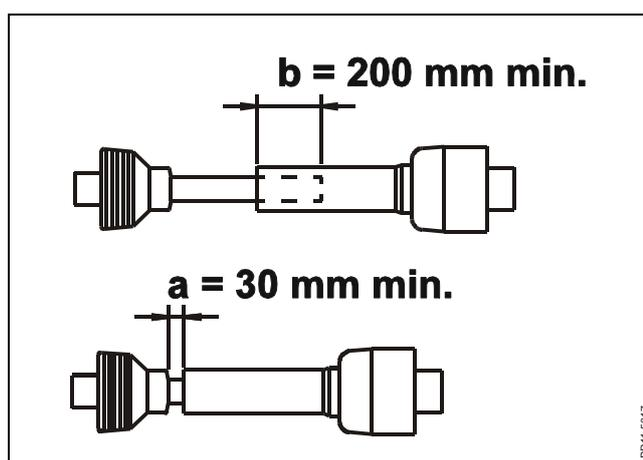

Fig. 2-8
- Fig. 2-8** The length of the PTO shaft is adjusted so that it: in working position has minimum 200 mm overlap. In no position is compressed more than the prescribed 30 mm in order not to bottom the shaft. In the outmost position has minimum 200 mm overlap.